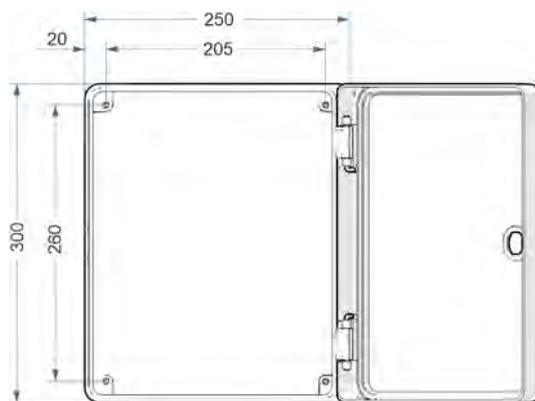

Fig. 6: Wall mounting: DryExx® Small
i *When installing on a mounting frame, attach the welding bolts supplied with the equipment to the intended surface as specified in Fig. 6 .*
- 1.** ➤ With another person, hold the control cabinet in place against the wall and prepare the fixings as described in Fig. 6 .